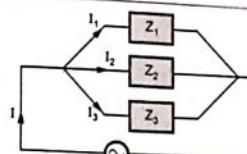

Fig. 3.8.2 Equivalent parallel circuit using admittances
- Now, current equation for the circuit shown in the Fig. 3.8.2 is,
- The three impedances connected in parallel can be replaced by an equivalent circuit, where three admittances are connected in series, as shown in the Fig. 3.8.2.